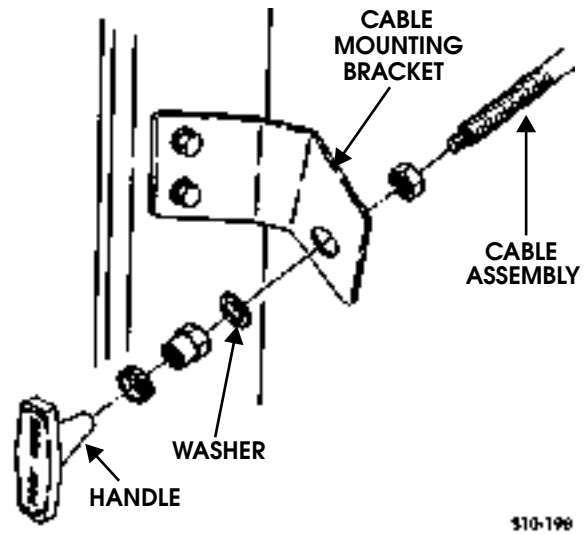

Figure 10-76: Hood Release Handle Assembly Mounting
3. Secure cable assembly to cable mounting bracket with nut, lockwasher, two nuts, and cable handle (Figure 10-76).